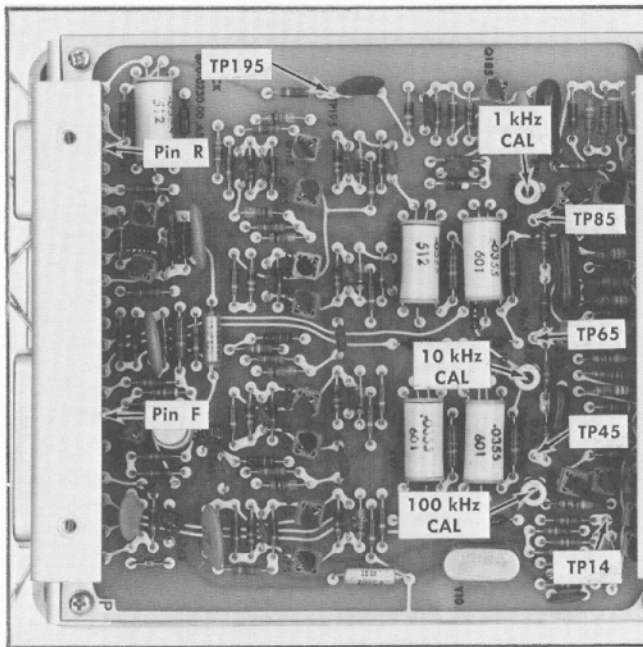
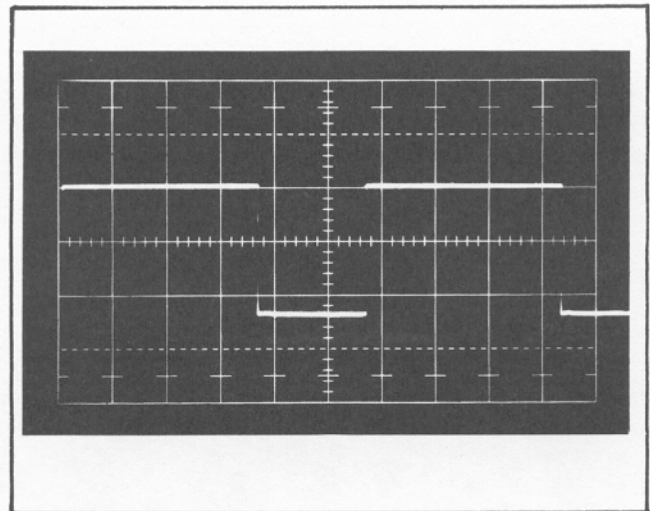

Fig. 5-9. Location of Test Points and Adjustments.
Fig. 5-10. Test Oscilloscope display described in step 7c.
c. Connect the Test Oscilloscope 10× Probe to Pin F, see Fig. 5-9. The Test Oscilloscope display should show between about 2 and 4 complete square wave cycles with a peak-to-peak amplitude of 12 volts, see Fig. 5-10.